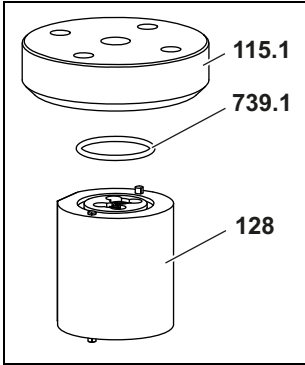

Fig. 2
2. Remove the O-rings **739.1** and **739.2**, see Fig. 2, page 30.